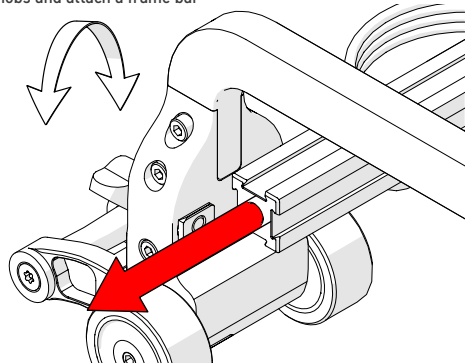

Fig. 21 - Tighten wing knobs
2. Align the dovetail groove of the frame bar with the dovetail nuts of the link. Slide the frame bar onto the link (Fig. 21).